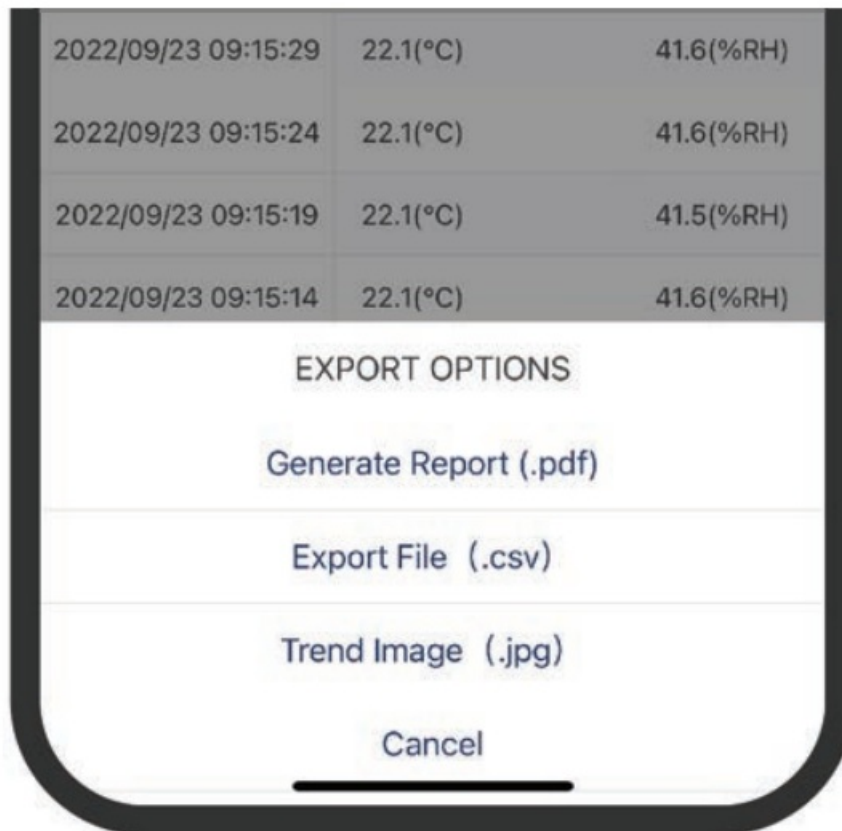

Figure 23
3. There are three report options to choose from: Generate Report (.pdf), Excel File (.csv) or Trend Image (.jpg). (Figure 23)